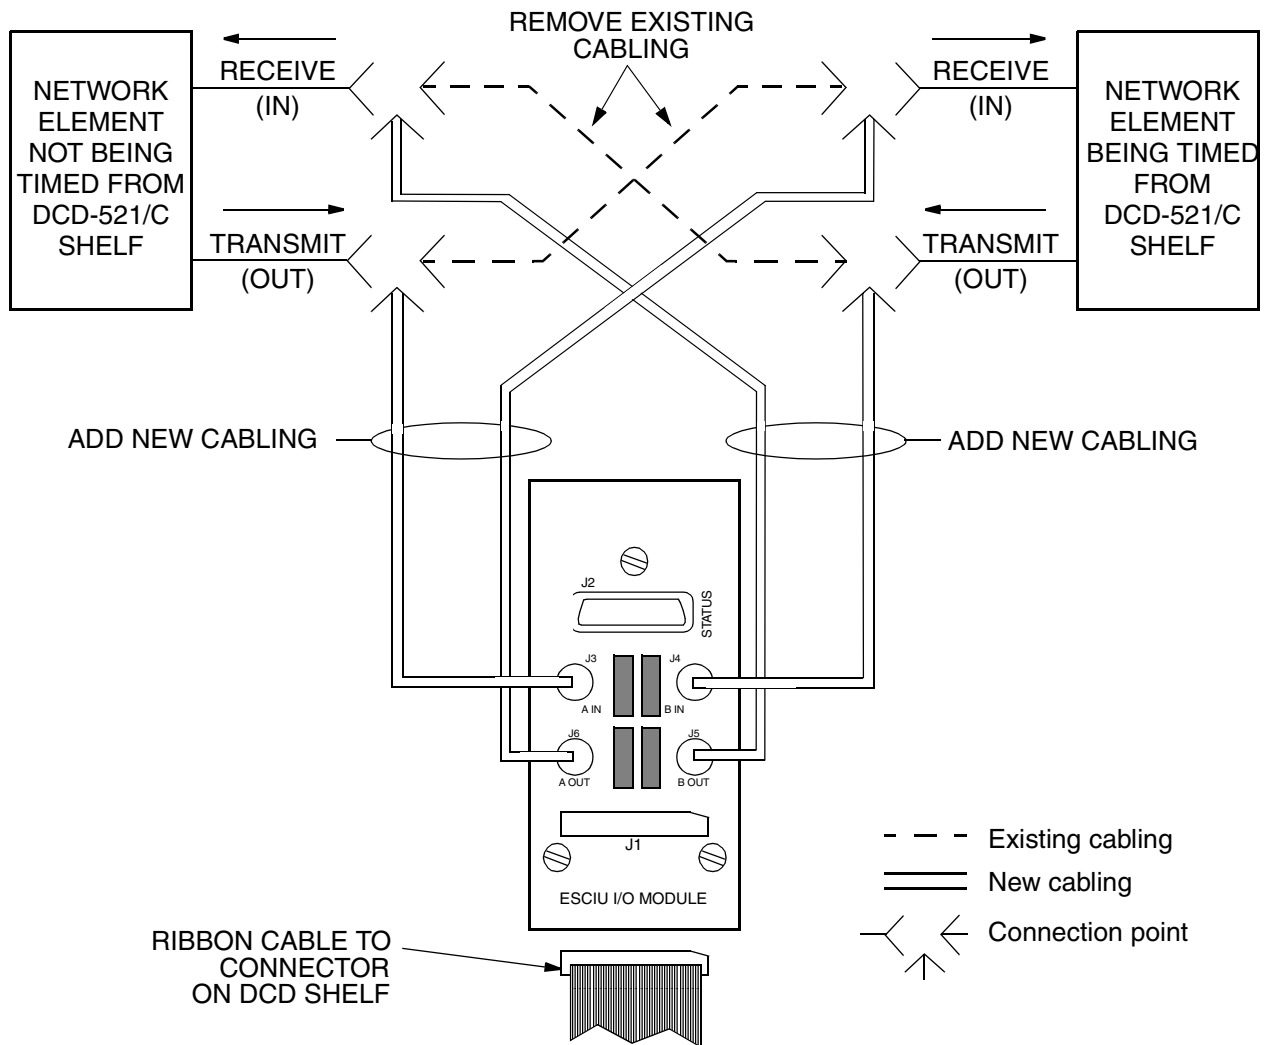

Figure 33. ESCIU Cutover without Jacks (Out-of-Service)
5.41 If DDF access jack sets *are not* cabled to the ESCIU/C module, the following out-of-service cutover procedure must be used. Consult the local company Installation Job Specifications to ensure that the network element to be retimed from the DCD-521/C Shelf clock is connected to the ESCIU/C module correctly. Refer to Figure 33 for the following procedure: